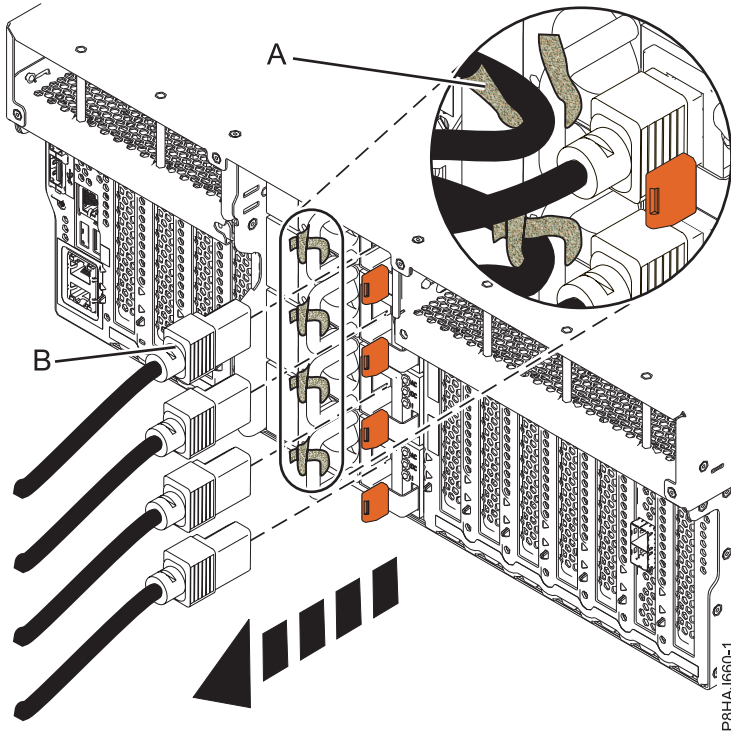
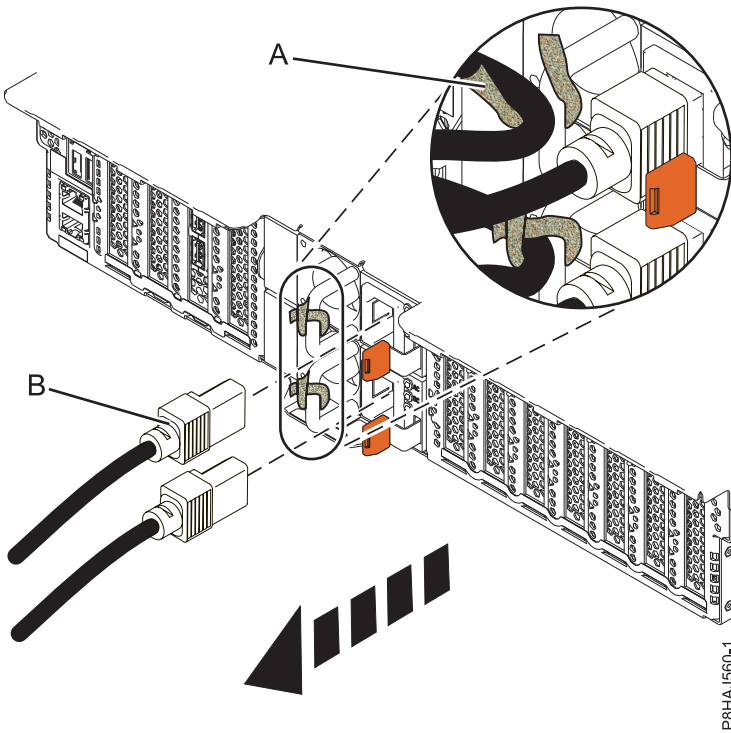
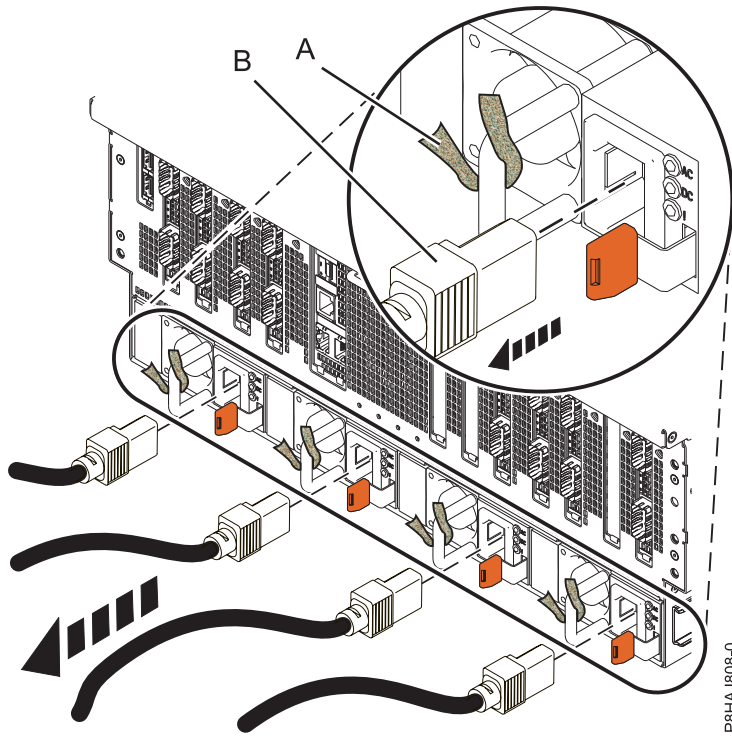

Figure 120. Removing the power cords from an 8247-42L, 8286-41A, or 8286-42A system
Figure 121. Removing the power cords from an 5148-21L, 5148-22L, 8247-21L, 8247-22L, 8284-21A, or 8284-22A system
Figure 122. Removing the power cords from an 8408-44E or 8408-E8E system
3. Disconnect the power cords (**B**) from the system unit. See Figure 120 on page 144, Figure 121 on page 144, or Figure 122 on page 145 or depending on the type of your system.